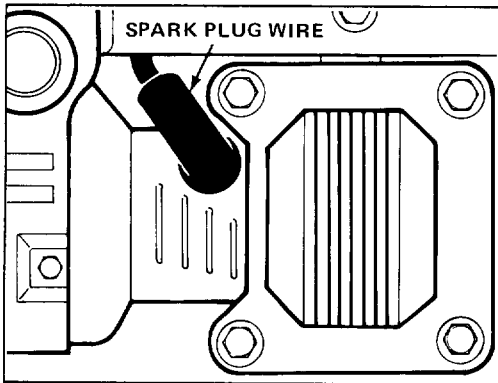

Figure 9
2. Push spark plug wire onto spark plug (Fig. 9).
1. Stop engine and pull wire off spark plug (Fig. 9).